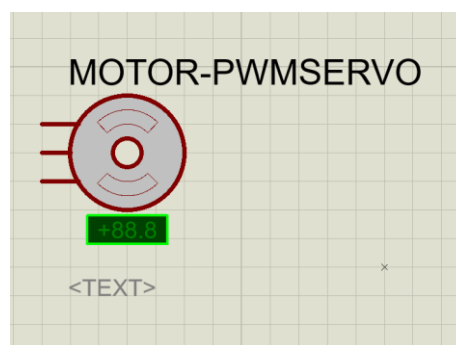

Figure 6. Servo motor simulation model
- **For Servo motor** (Figure 6) at least three commands should be implemented: